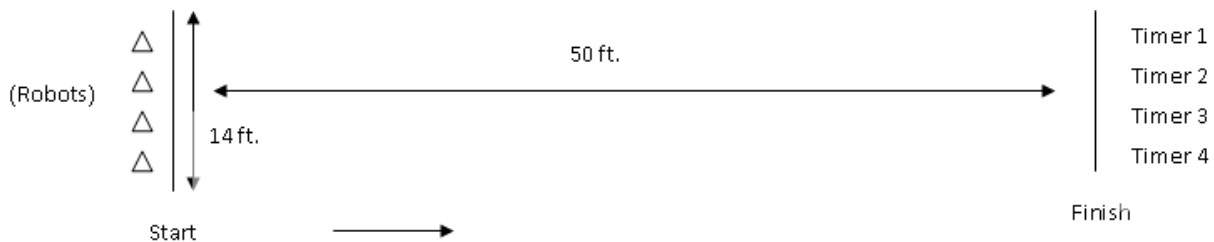

Figure 1: Speed Test
**Test Method:** A start and finish line will be separated by 50 ft, as shown in Figure 1. Four robots will be lined up at the starting line, and a timer, i.e. a student holding a stopwatch, for each robot will be lined up on the finish line. One designated student, neither a timer nor a controller, will say “go” at which point the timers will start the stopwatches and the robots will move, using closed-loop control, at maximum speed until they cross the finish line. The timers will record the average speed over the time interval. Controllers will collect their robots and move on to the next station.